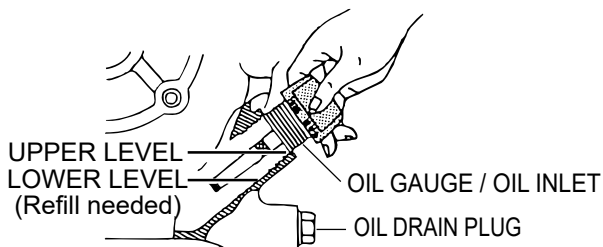

Figure 4. Engine Oil Check
1. To check the engine oil level, place the compactor on secure level ground with the engine stopped (see Figure 4).